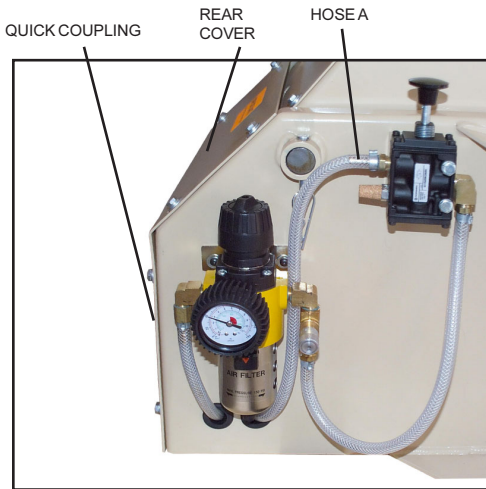

Figure 1
- 1) Disconnect the air supply at the quick coupler (see **Figure 1**). **NOTE: MAKE SURE THE UNIT IS IN THE DOWN POSITION BEFORE DOING THIS!!**